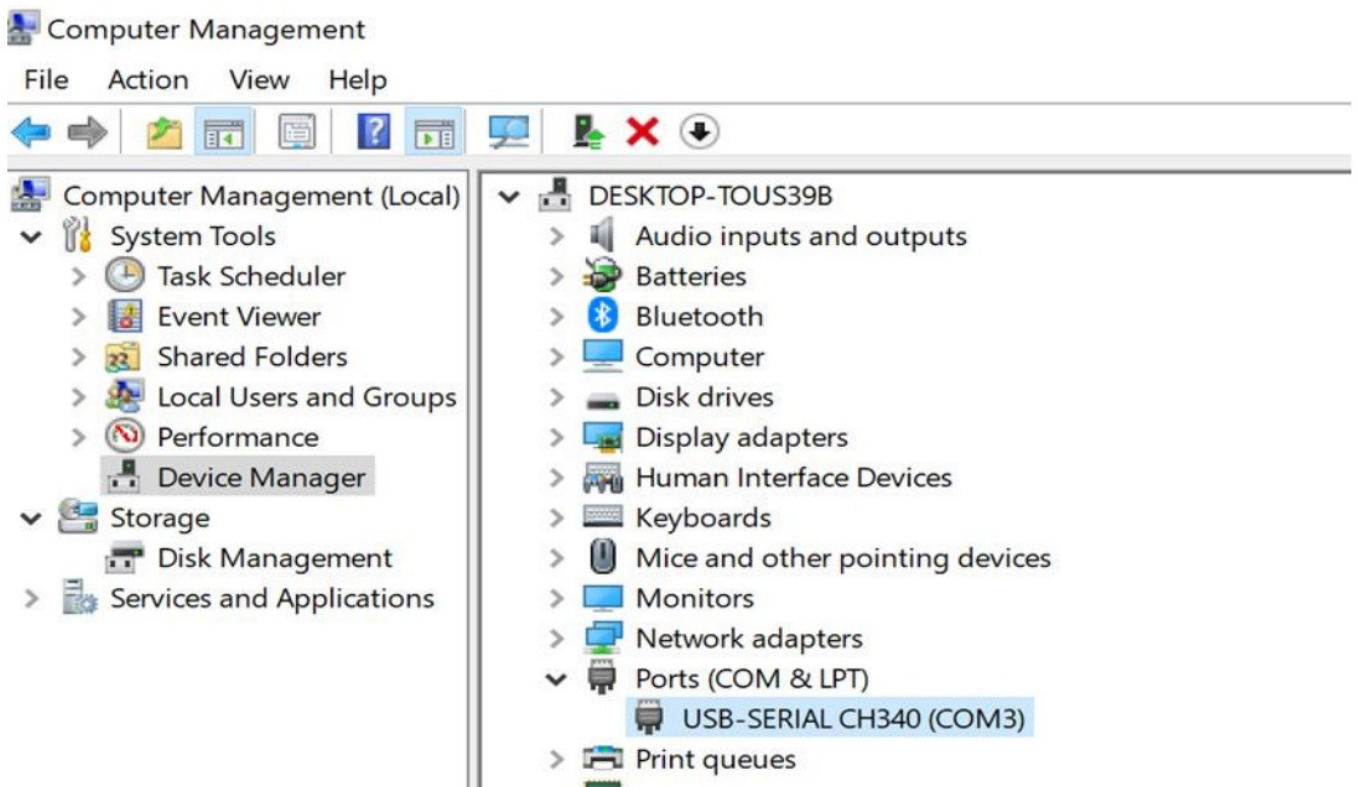

Fig. 3.2.1
3. Driver Debugging: Right-click “My Computer” to “Computer Management”, and click “Device Manager”. Users can find “USB Serial Port (COM XX)” which indicates the driver has been installed automatically, as shown in Fig. 3.2.1